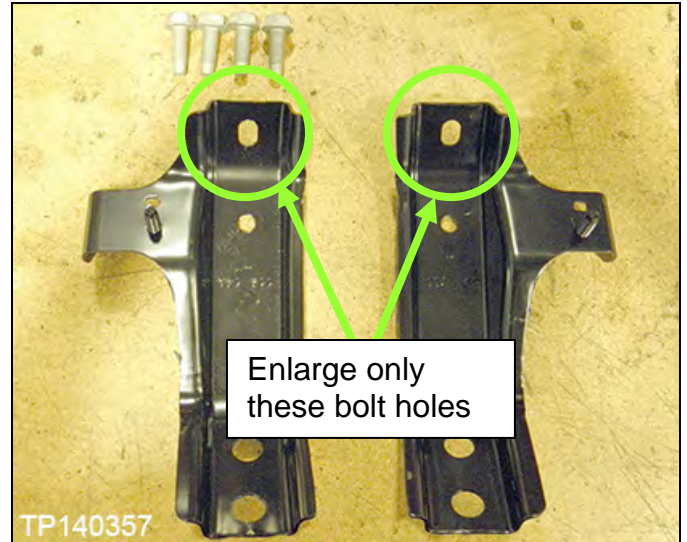

Figure 2
- b. With a $\frac{1}{2}$ " drill bit, enlarge the bolt holes indicated in Figure 2